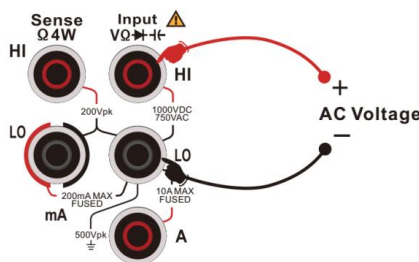

Figure 2-20 Connection of signal frequency measurement
- 2) Connect the test leads to measured signal as Figure 2-20, connect the red test lead to terminal Input-HI, and the black one to terminal Input-LO.